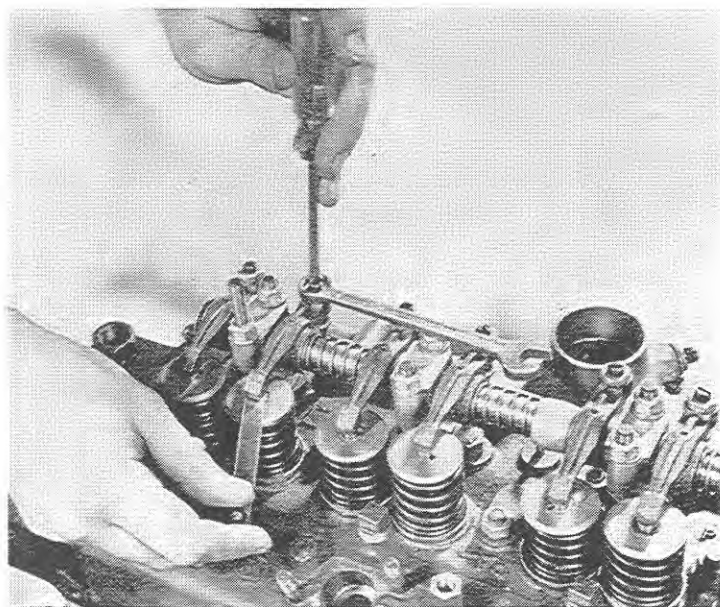

Fig. 9
**C — Adjusting valve clearance (Fig. 9)**